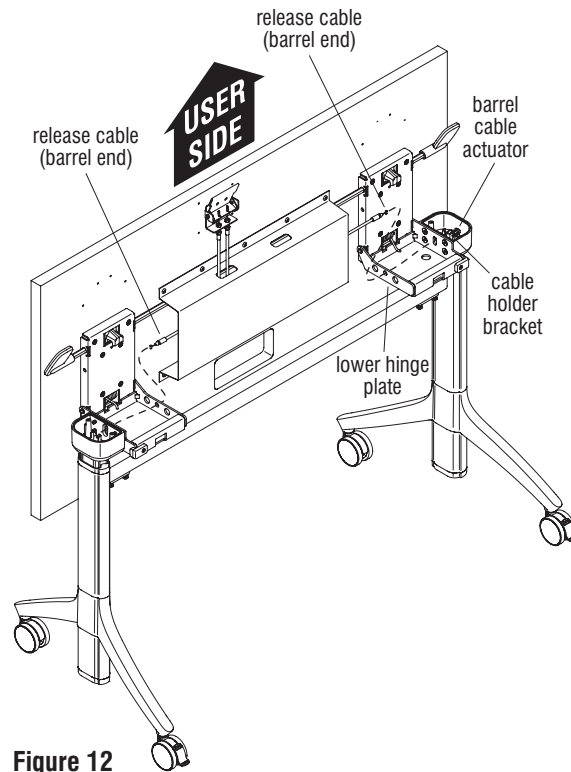

Figure 12
28. Route the barrel end of one release cable through the center round hole located on the side of the lower hinge plate, then through the pill-shaped hole on the opposite side of the lower hinge plate that leads into the mounting head. Continue to route the barrel end of the release cable into the mounting head until the barrel end reaches the barrel cable actuator (Figure 12 & Detail S).